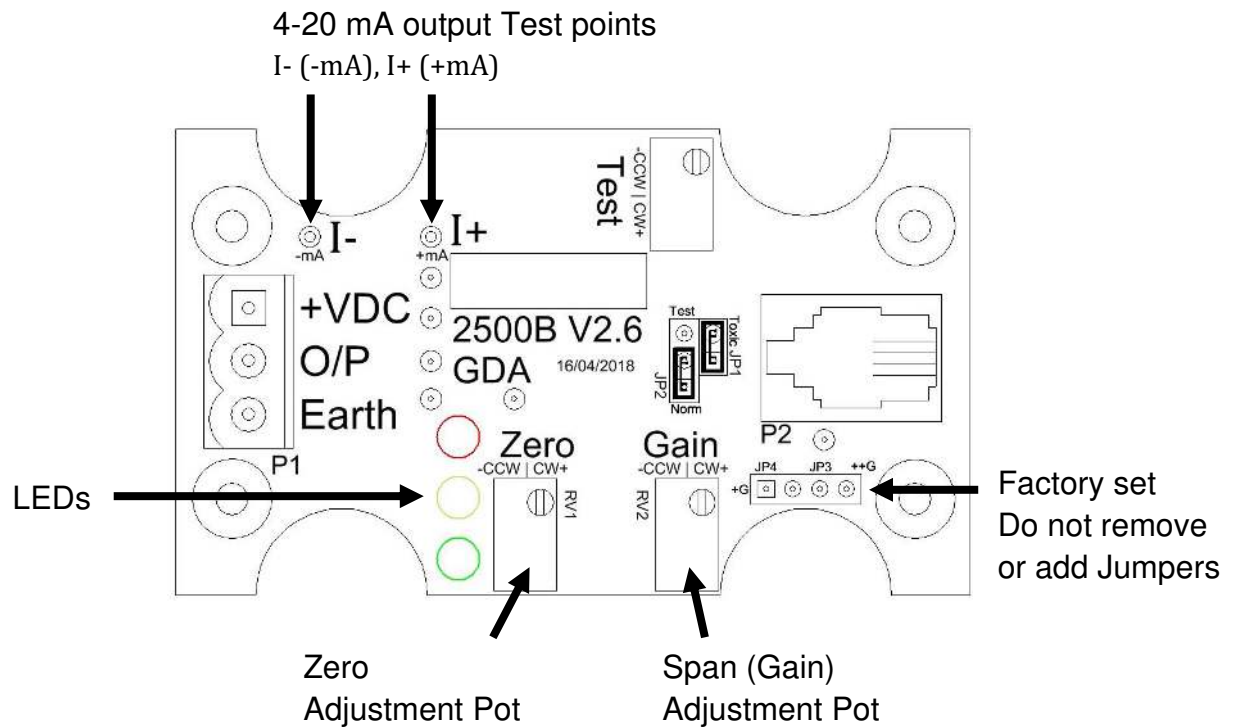

Figure 6: Calibration adjustment pots and rang selection
Calibrate using the 4-20 mA test points and a multimeter see Figure 6 for mA output test points and adjustment pots.
2. Apply the multimeter to the sensors 4-20 mA current test points see Figure 6 (observing the polarity).
Calibration using the 4-20 mA test points and a multimeter see Figure 6 for mA output test points and adjustment pots.
- a. When the current meter value stabilises (the value may flicker ± 0.05 mA) adjust the SPAN (Gain see Figure 6) pot until the required mA value is displayed on the current meter. See Table 4 below calculations to determine the correct mA value for the calibration gas.